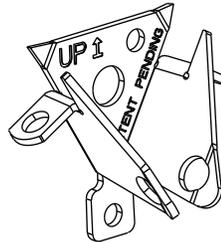

Figure 12
- 5) Loop chain around keeper as shown. **Fig. 12.** Optional Padlock not provided.